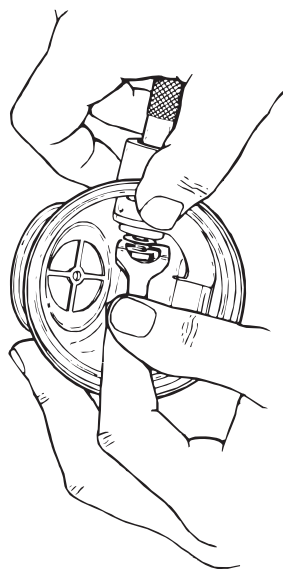

Figure 8
20. Position the spring (15) over the stem of the retainer (Item 14).
24. Still pushing inward on the wrench, compressing the spring, insert the lever (Item 20) between the spacer and the washer (See Figure 8). Remove the disc and retainer wrench and assure that the lever is properly aligned in its groove on the box bottom.